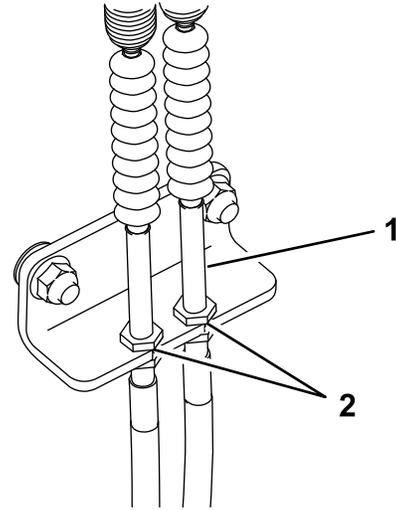

Figure 43
- Inside the left side of the control tower, adjust the nuts until the cables are taught (Figure 43).